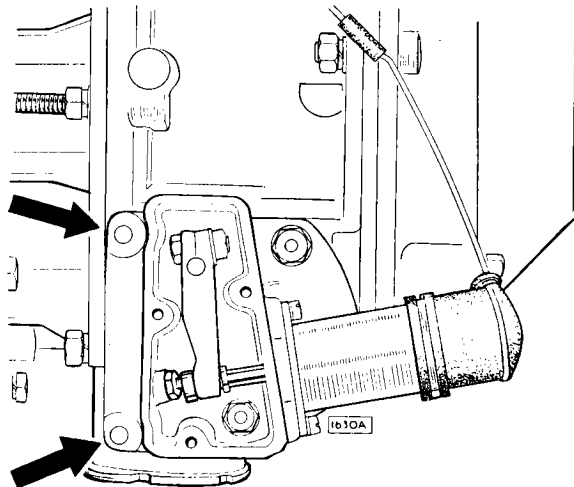

Fig. 38. Removing the solenoid bracket—remove the nuts from the studs before unscrewing the two setscrews.
6. The solenoid bracket is secured by two $\frac{5}{16}$ " (7.94 mm.) diameter studs and two $\frac{5}{16}$ " (7.94 mm.) diameter bolts, the heads of which are painted red (see Fig. 38). REMOVE THE NUTS FROM THE STUDS BEFORE TOUCHING THE BOLTS. THIS IS IMPORTANT. The two bolts should now be slackened off together, releasing the tension on the accumulator spring.